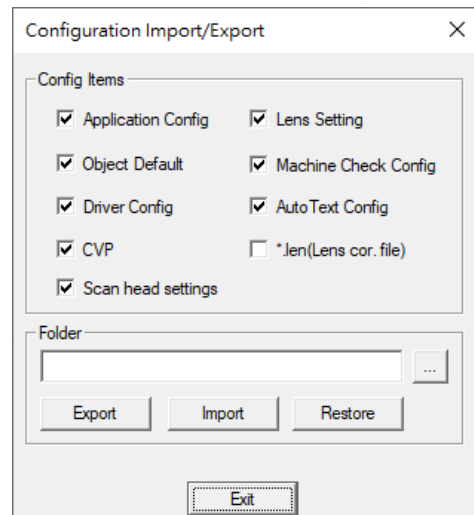

Fig. 1.1.83
1. Click on “File”→“Configuration Import/Export” to bring out dialog seen as fig. 1.1.83.
1. Click on “File” → “Configuration Import/Export” to bring out dialog seen as fig. 1.1.83..